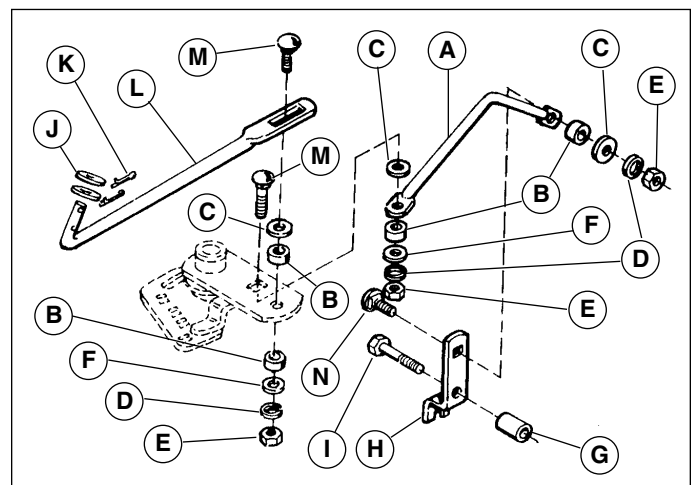

Figure C-20. Front/Rear Shift Rod Assembly - Hydro-Gear 0750 / 0800
4. See Figure C-20. Slide the clip ring out of the groove on the pivot shaft, and remove the idler arm assembly from the unit by pulling it off the shaft.